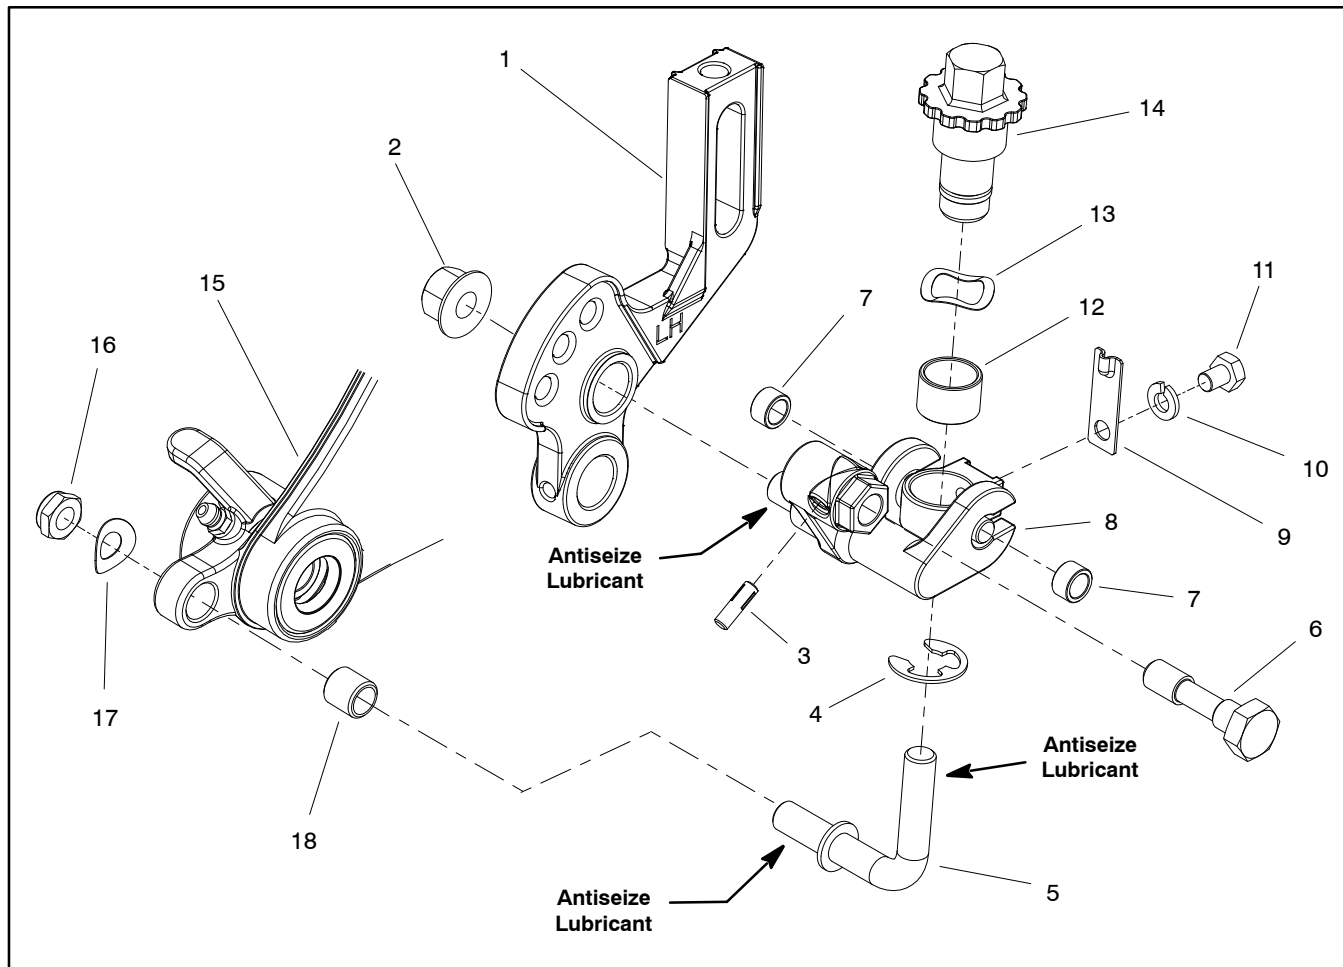

Figure 31
Disassembly (Fig. 31)
3. Remove flange nut (item 2) that secures lift arm assembly to HOC groomer arm. Remove lock nut (item 16) and spring washer (item 17) that secure lift arm assembly to side plate. Loosen lock screw (item 6) completely.
5. Disassemble lift arm using Figure 31 as a guide.
NOTE: Right and left side HOC groomer arms (item 1) and lift arm assemblies (item 8) are different; other components shown in Figure 31 are the same on both sides of cutting unit.
Assembly (Fig. 31)
1. Assemble lift arm using Figure 31 as a guide.
2. Apply antiseize lubricant to threads of groomer lift rod (item 5) and lift arm assembly stud (item 8).
3. Install lift arm assembly onto cutting unit. Secure with flange nut (item 2) and lock nut (item 16) with spring washer (item 17).
4. Secure groomer in raised or lowered position with lock screw (item 6).